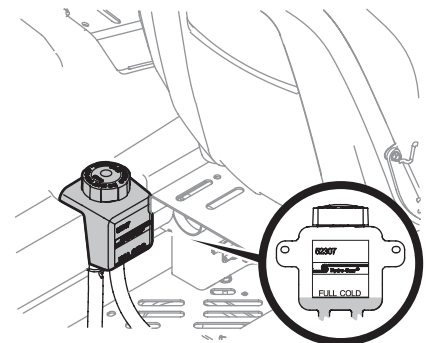

Figure 4-9
1. Clean the reservoir cap and the area around the cap to prevent debris from contaminating the transmission oil. See Figure 4-9.
2. Turn the reservoir cap counter-clockwise to remove, then check the oil level in the reservoir. Oil should be visible at the bottom of the cup, but the oil level must NOT be above the "FULL COLD" line. See Figure 4-9. DO NOT FILL THE RESERVOIR.